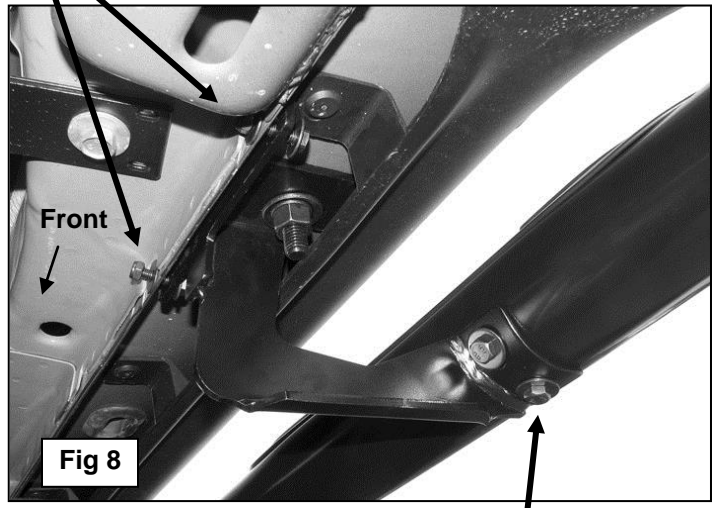

Fig 8
5. Select the passenger/right Sidebar and carefully place it in position on the (3) Mounting Brackets. Line up the threaded holes in the Sidebar with the slots in the Brackets and bolt it in place with the included (6) 8mm x 25mm Hex Bolts, (6) 8mm Lock Washers and (6) 8mm Flat Washers, (**Figure 8**). Snug all hardware but do not tighten at this time.